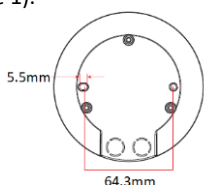

Figure 1
1. Twist and unclip the front cover. Use mounting points on the detector housing as a template, mark and drill holes on a mounting surface (Figure 1).